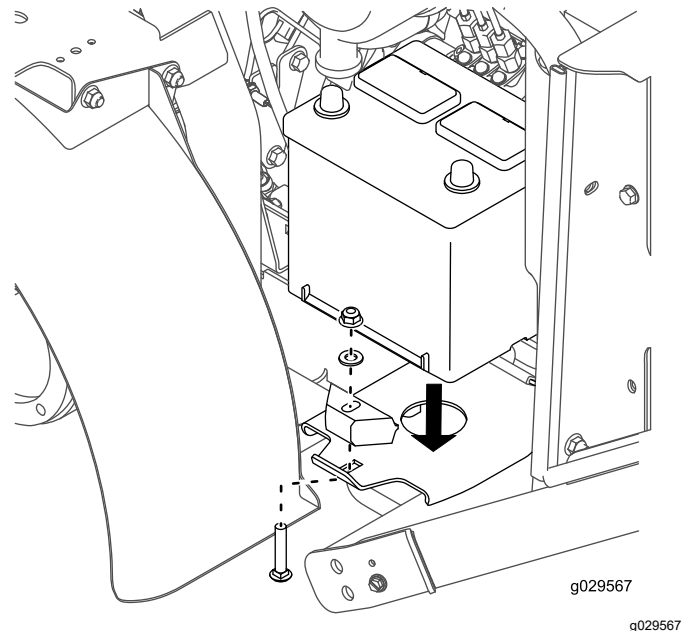

Figure 25
8. Loosely mount the battery to the battery platform with the carriage bolt, hold-down, washer, and nut that you previously removed (Figure 25).